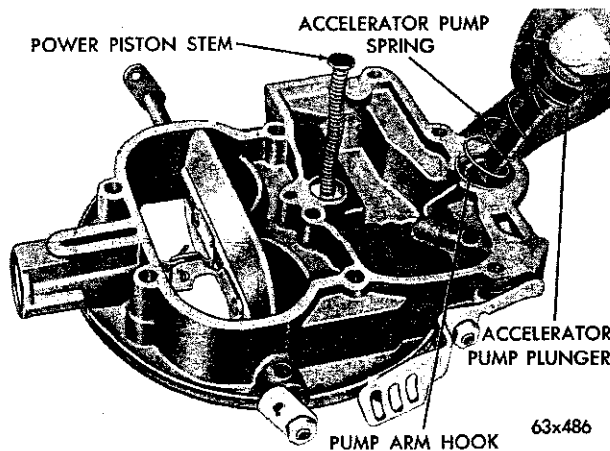

Fig. 4—Removing or Installing the Accelerator Pump Plunger
(6) Disengage the accelerator pump-plunger from the pump arm hook by tilting down and out from under hook, as shown in Figure 4. Remove the compression spring.
(1) Slide the choke shaft and lever into the air horn with the choke lever pointing down and away from the air horn. Slide the choke valve down into the slot in the shaft.
(2) Hold the choke valve closed, then position the choke piston bracket and install new screws. **DO NOT TIGHTEN.** While holding the valve in the closed position, tap gently with a screwdriver, to center and locate the valve.
(3) Tighten attaching screws securely, then stake by squeezing with pliers. Reinstall the fast idle lever and secure with lockwasher and nut.
(4) Soak the accelerator pump plunger in a jar of clean gasoline. Test the leather. If the leather is hard, cracked, or worn, install a new pump plunger. (Be sure and flex the leather several times before installing plunger in air horn.)
(5) Slide the compression spring over plunger shaft, then slide plunger over hook and into position (Fig. 4).
(6) Install a new air horn gasket, then install the vacuum power piston in air horn. Lock the piston in position by prick punching on the retaining rim. Compress the piston plunger to be sure no binding exists. If the piston sticks or binds enough to hinder smooth operation, install a new piston assembly.